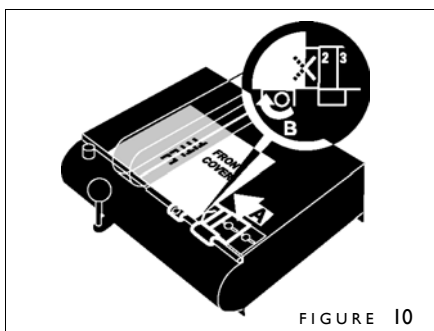

FIGURE 10
4. With the Centering Guide Lock unlocked, slide the Centering Guide **under** your cover until the cover right edge (A) lines up with the middle of the X (figure 10). Then tighten the Centering Guide Locking Knob (B).